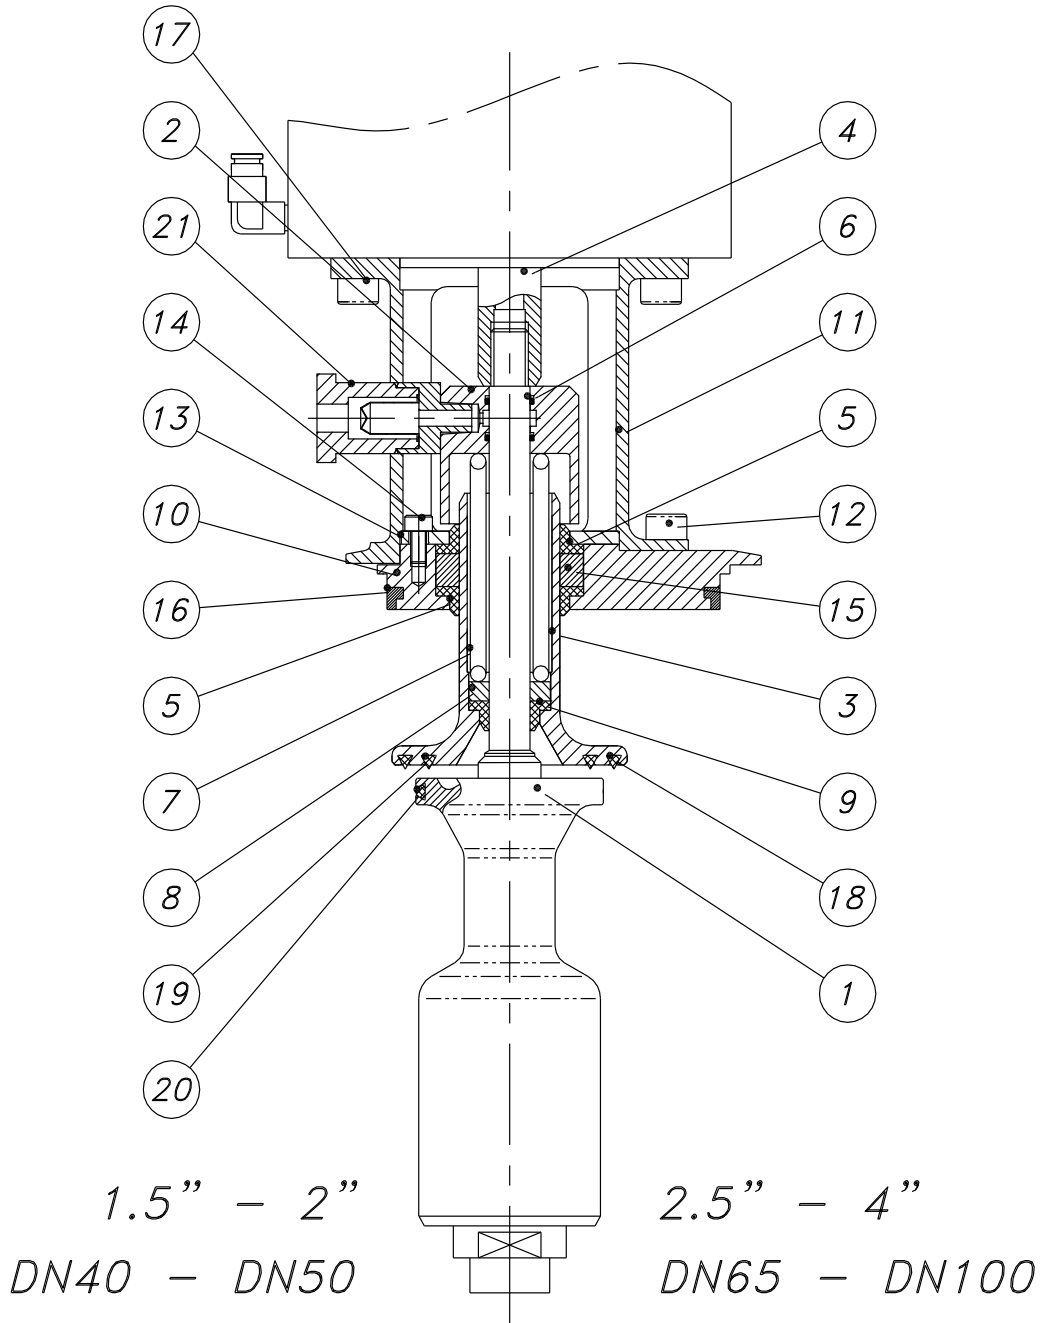

Fig MBCSS1
1.2 Poppet/Actuator Dismantling (Fig MBCSS1)
1.5 Reassembly of Poppets and Actuator (Fig MBCSS1)
3.1 Top Shaft Seal and/or Bearing (Fig MBCSS1)